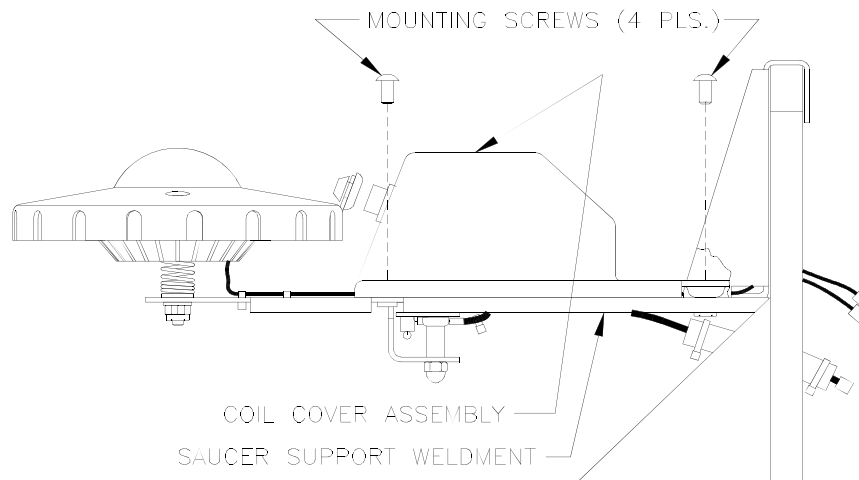

FIGURE 2
2. Place Playfield Plastic Assembly #5 to the side and remove the four mounting screws (p/n FSM-083-PSM031C) that mount the COIL COVER ASSEMBLY (p/n A-20870) to the Saucer Support Weldment (p/n 04-10315.1). You may now access and/or service the Saucer Coil Assembly (p/n PIN-AE-261500), the saucer Armature (p/n AFM-04-10361) or the Saucer the Saucer Cables (p/n AFM-CBL-SUCRCBL & AFM-CBL-SACRSHK). (See Fig.2 & 3)